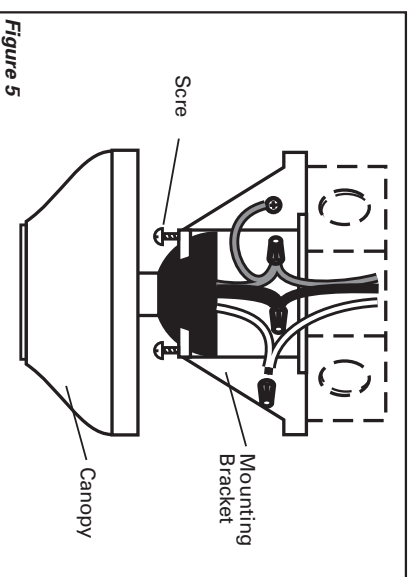

Figure 5
- Raise canopy up to mounting bracket and fit screws into slots on canopy and rotate to the left to lock into place. Tighten both screws. (Figure 5)